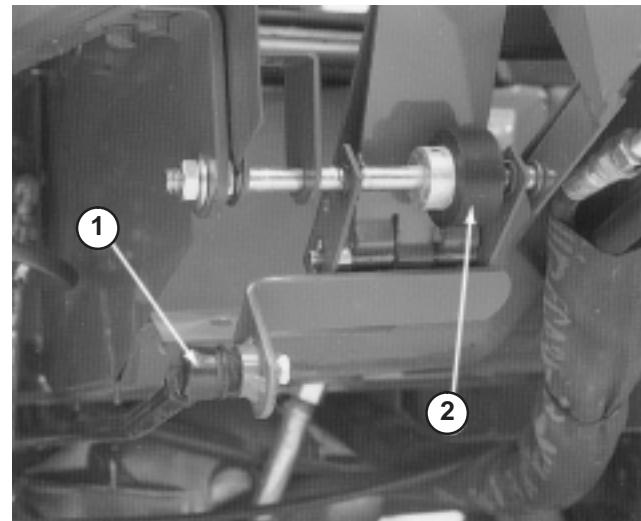

Figure 59
4. Adjust control rod end (Fig. 59) until there is a .12" gap between top of traction pedal stop screw and pedal. Tighten lock nuts.
1. Loosen two nuts securing traction pedal shaft on right side of pedal (Fig. 59).